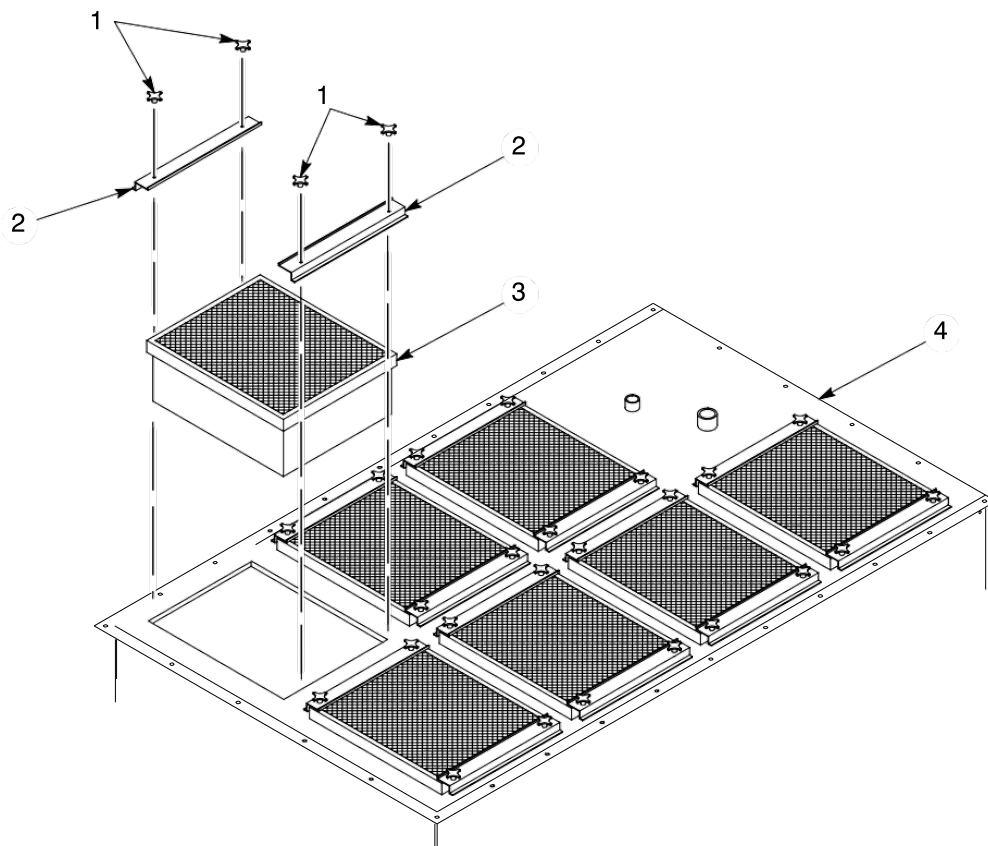

Figure 6-2 Final Filter Replacement
3. See Figure 6-2. Remove the final filter brackets (2) by removing the clamping knobs (1).
4. Lift the old final filter (3) out of the afterfilter.
5. Inspect the interior of the fan housing (4). If you see large amounts of powder inside of the housing, powder is leaking through the cartridge filters or mounting plate. Fix the leak before starting the system.